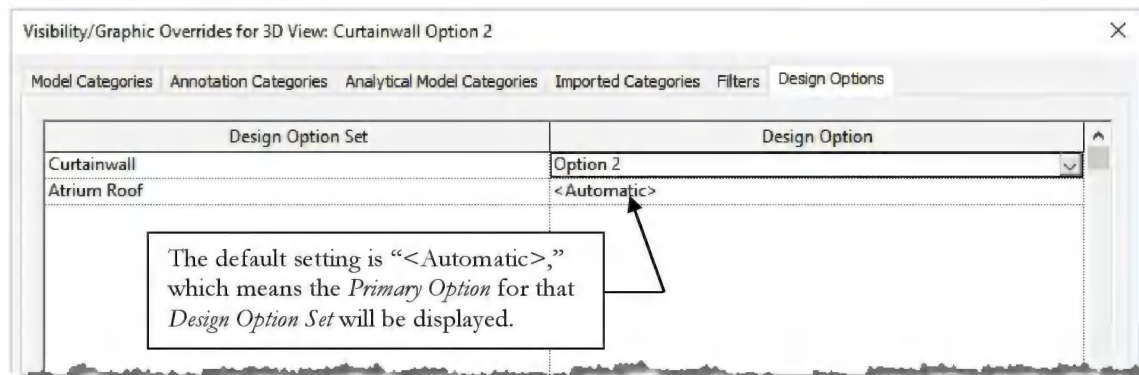

FIGURE 8-6.10 Visibility/Graphics Overrides dialog: modified Curtainwall design option visibility
26. Change the *Design Option* parameter for *Curtainwall* to *Option 2* (Figure 8-6.10).